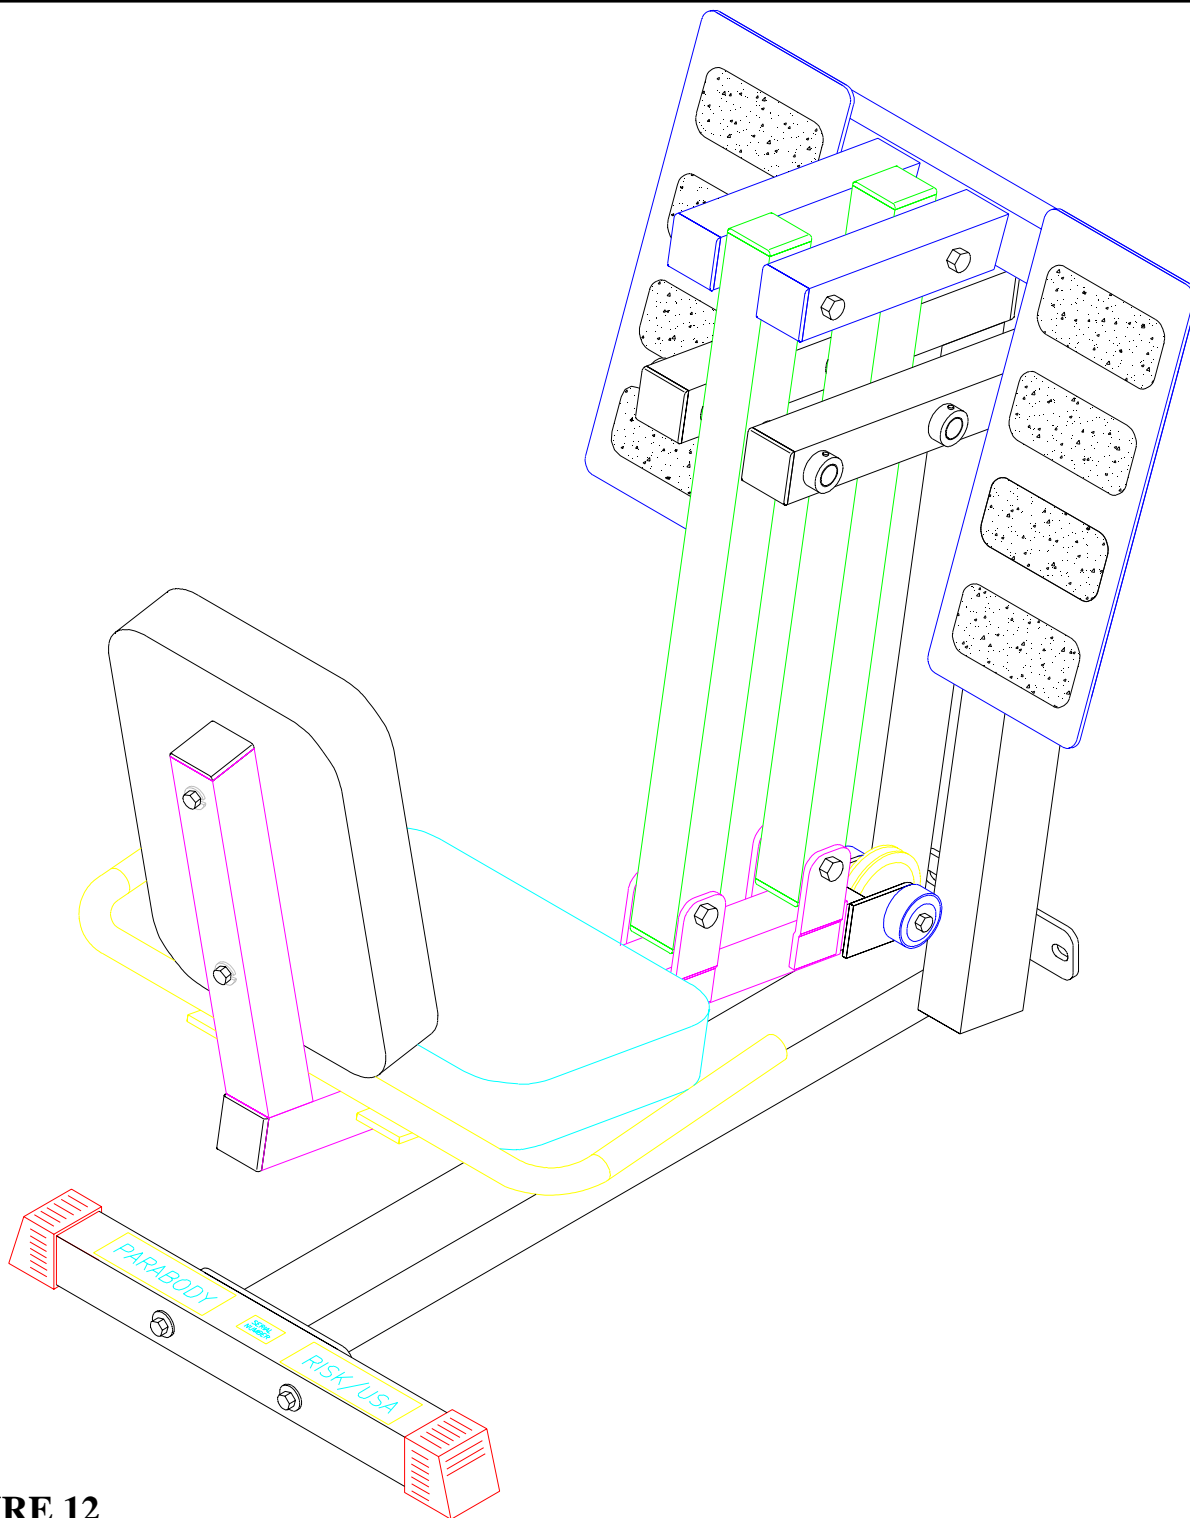

**FIGURE 11**
- **SECURELY** assemble the SEAT PAD (8) to the SEAT FRAME (2) using two 3/8 X 2-3/4" BOLTS (24) and two 3/8" LOCK WASHERS (18) as shown in FIGURE 11.
- Slide two 1 X 8" GRIPS (10) over each HANDLE (6) as shown in FIGURE 11.